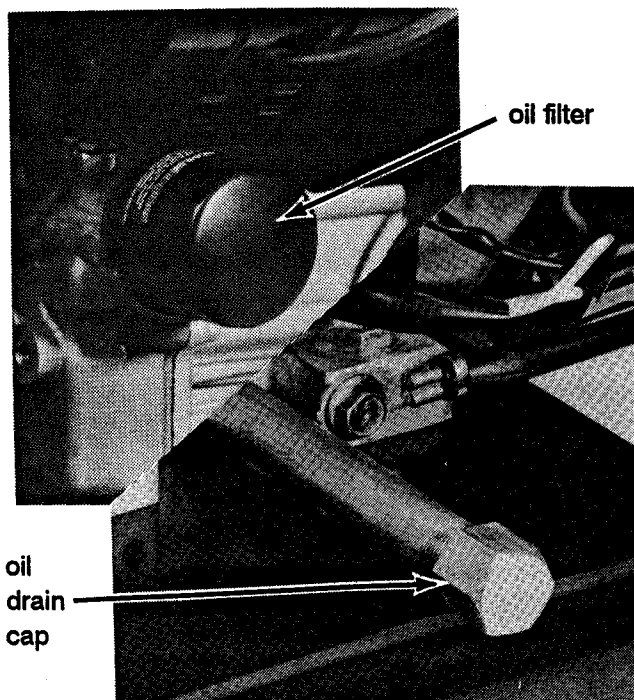

Figure 18. Engine oil filter and drain cap.
1. Remove engine drain cap and filter (Refer to Figure 18). Drain oil into pan.
2. Replace cap and filter. Refill to full (F) mark on dipstick. **DO NOT OVERFILL.** Clean up spilled oil.